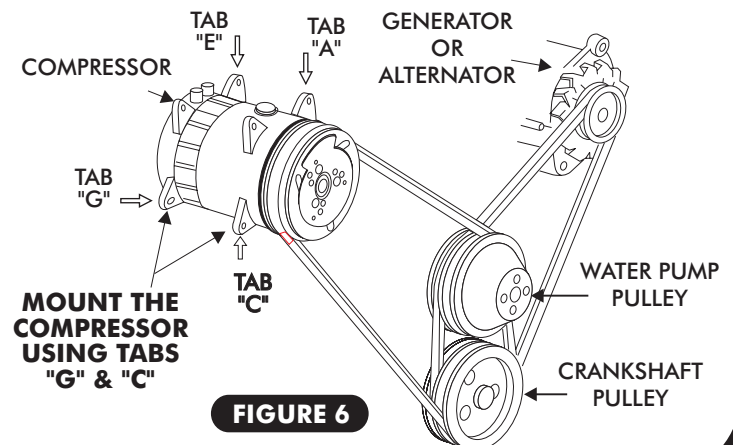

FIGURE 6
- REFER TO SEPARATE INSTRUCTIONS INCLUDED WITH THE BRACKET KIT TO INSTALL THE COMPRESSOR BRACKET. REFER TO FIGURE 6 BELOW FOR COMPRESSOR MOUNTING POSITION.
- IN MOST INSTANCES EXISTING BELT LENGTHS WILL REMAIN THE SAME. SEE FIGURE 6 BELOW.